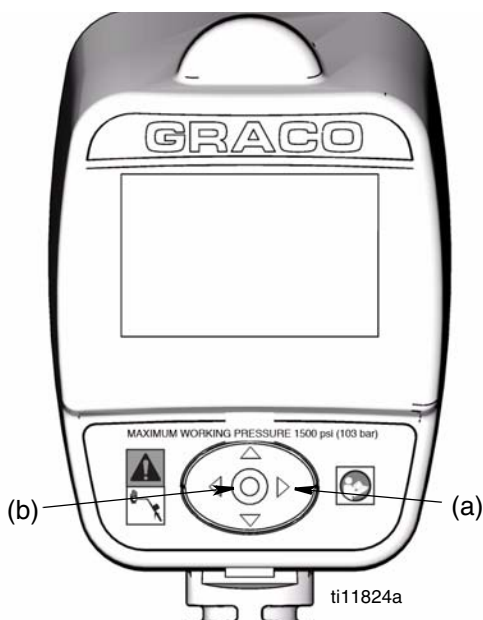
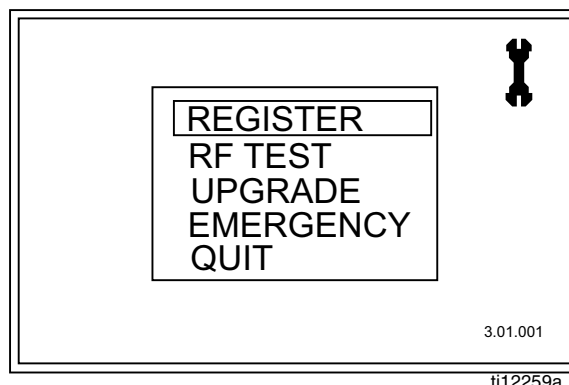

FIG. 3
FIG. 4
Main Utility Setup Screens (Fig. 4)
1. If you are on a Dispense Screen, to display the Main Utility Screen, first hold down the RIGHT ARROW (a) only, for a few seconds (FIG. 3).
2. Then at the same time, also hold down the center, ENTER button (b) (FIG. 3). Hold both buttons down until the Main Utility Screen shown in FIG. 4 displays.